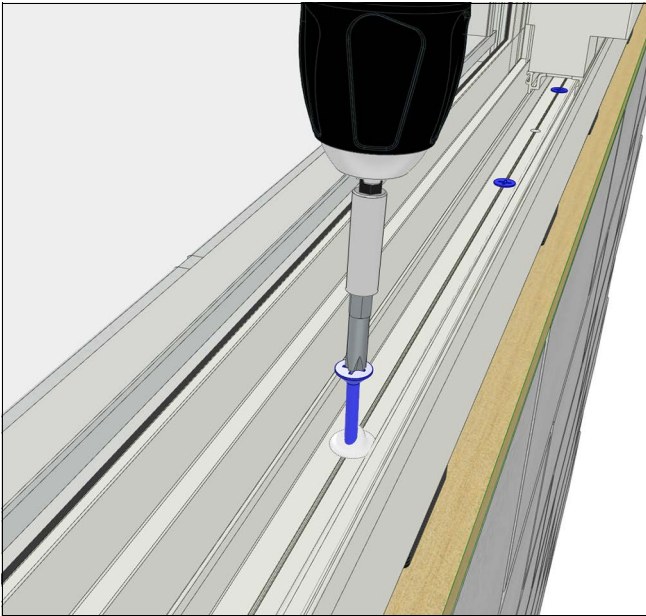

Figure 15
7. Fasten the unit into the opening through all installation holes using appropriate fasteners (See Typical Anchors on page 9). See Figure 15.